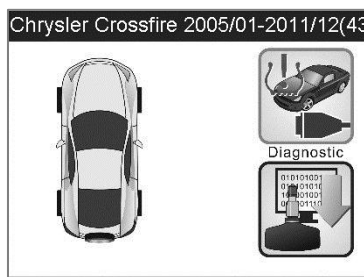

Figure 3-17 Sample Diagnostic Selection Screen
3. Follow the same process in *TPMS Sensor Check* to enter the activation screen. Use the **UP/DOWN** scroll button or **LEFT/RIGHT** scroll button to select the **Diagnostic** function on the upper right corner of the screen (Figure 3-17).